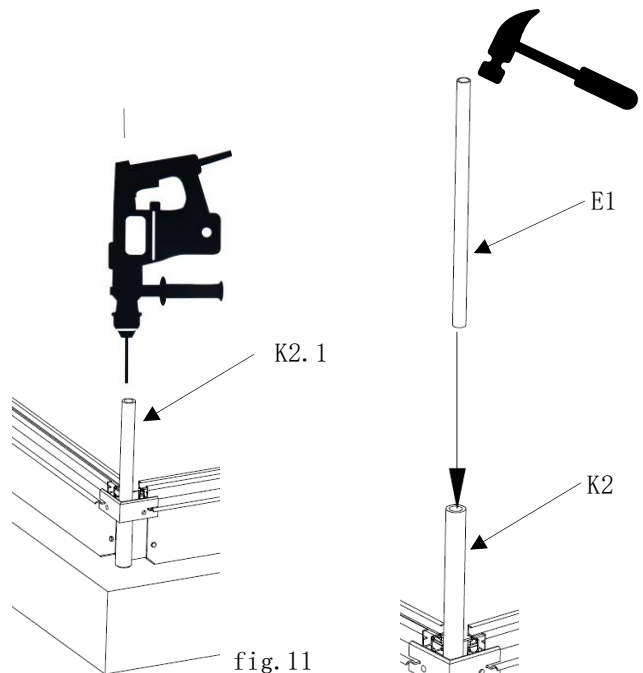

fig. 11
- use a drilling aid (PVC pipe) to drill a hole at least 100 mm deep and Ø20 mm in the concrete (item K2.1). (fig. 11)